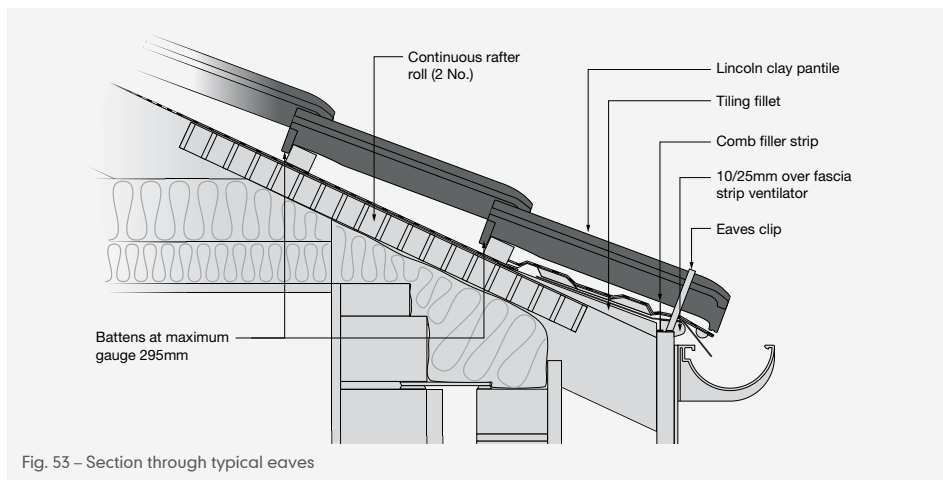

Fig. 53 – Section through typical eaves
- 1 The roof underlay should be laid over the tilting fillet or eaves vent strip and into the gutter (Fig. 53).